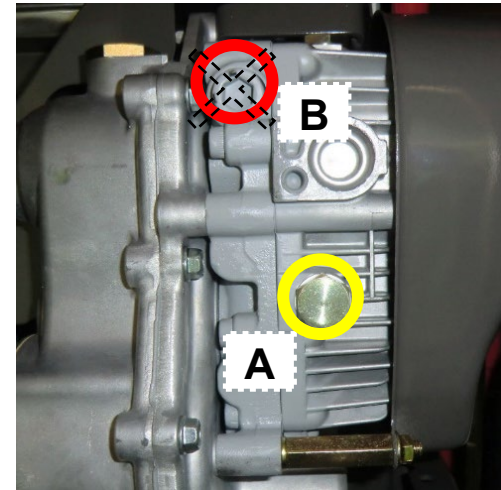

Figure 14
1. Place the suitable container below the HST unit to catch the oil, then remove the oil drain plug (A Figure 14).
Never loose the bolt (B Figure 14). Otherwise, it might influence for machine driving. To do so is considered misuse, and damage caused by misuse is not covered by Warranty.